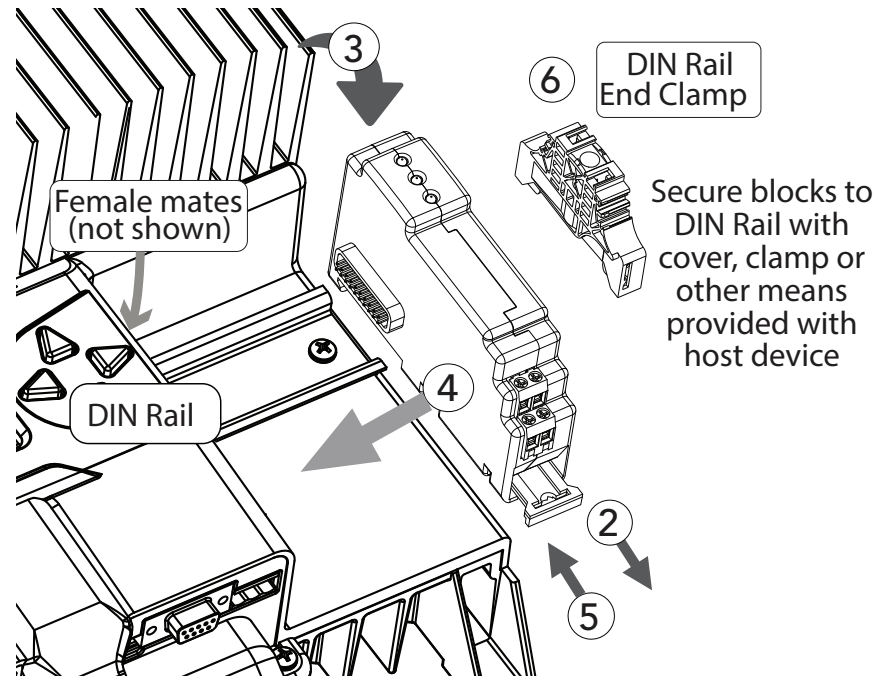

Figure 3-1 -ReadyShunt Installation Detail
Morningstar ReadyBlocks (ReadyShunt, ReadyRelay, ReadyBMS) are DIN ReadyRail-mounted, and have modular connecting pins on each side of the Block. The left-side male connector mates with the host device's control board, while the right-side female connector is available to mate to another Ready Block (daisy-chain configuration - see Figure 3-1 below). Each ReadyShunt takes one position on the DIN rail - the left-most being Position 1.
**To install ReadyShunts** (see Figure 3-1 below):